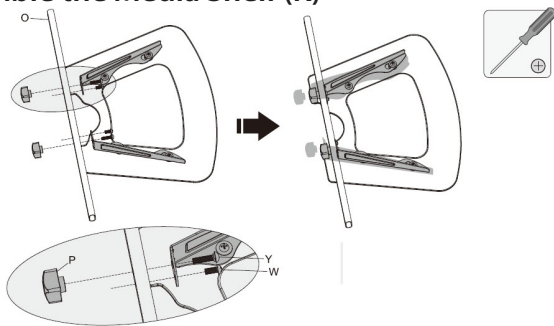

Figure 9
1. Flip the **Media Shelf (K)** upside down and place on a clean and flat surface.
2. Place the **Support Bar (O)** up against the **Media Shelf (K)**, aligning the holes in the **Support Bar (O)** with the holes found in the **Media Shelf (K)**. (Figure 9)
3. Hold one of the **Knobs (P)** up against the outermost hole in the **Support Bar (O)** and insert one of the **M6 x 25 mm Button Head Screws (Y)** through the square shaped hole in the **Media Shelf (K)**, the **Support Bar (O)**, and into the **Knob (P)**.
6. Insert two **M6 x 14 mm Screws (W)** through the innermost circular shaped holes in the **Media Shelf (K)** and into the **Support Bar (O)**.
7. Tighten the **M6 x 14 mm Screws (W)**, using a **Phillips Head Screwdriver**.